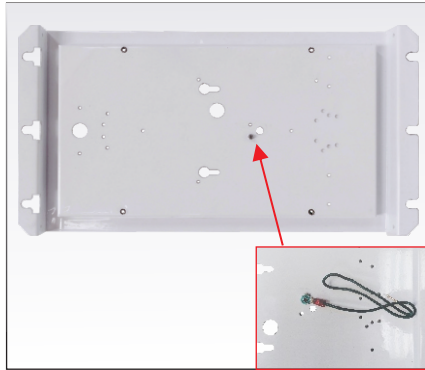

Figure 1
1. Start by removing the original lamp, ballast and socket from the luminaire. See Figure 1.